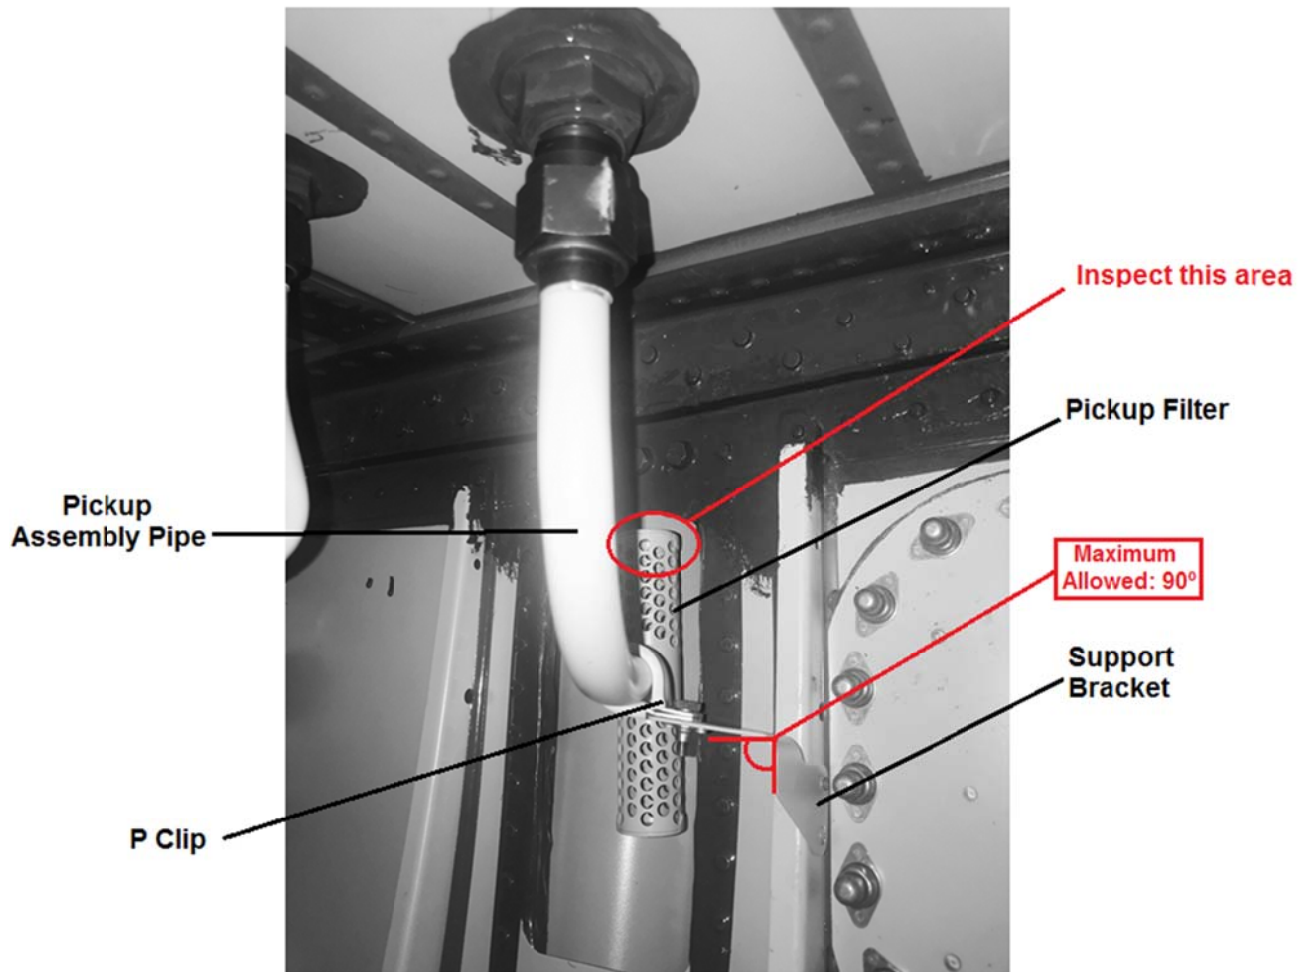

FIGURE 1 INSPECTION AREA – LH WING VIEW (RH WING VIEW IS OPPOSITE SIDE)
- 3) Inspect the Support Bracket which connects the Pickup Assembly to the Wing Former (See Figure 1):
- 6) Loosen the screw attaching the P Clip to the Support Bracket and check (See Figure 1):